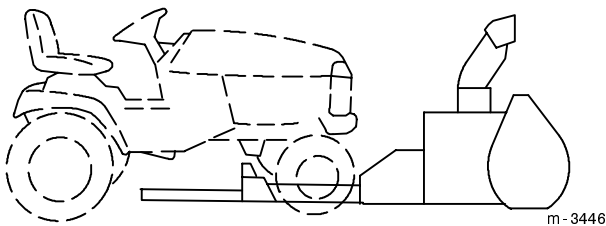

Figure 9
2. Park the tractor over the snowthrower lift rod between the tractor wheels (Fig. 9). Lower the attachment lift and turn the ignition key to "STOP" to stop the engine. Remove the key.
- A. Continue pulling the tractor toward the snowthrower until the end of the snowthrower frame is directly below the mid Attach-A-Matic™ hitch (Fig. 9).